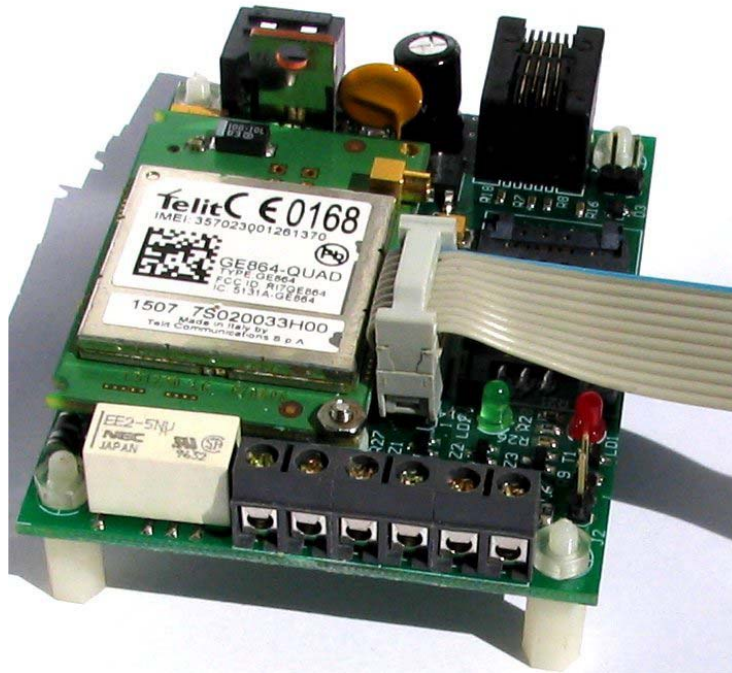

Figure 4 – Connect the 10-pins of the PicFlash2 to J5 Header
- v. Connect the 10-pins of the PicFlash2 connector cable to header J5 on the Pix-Cell controller, according to Figure 4.